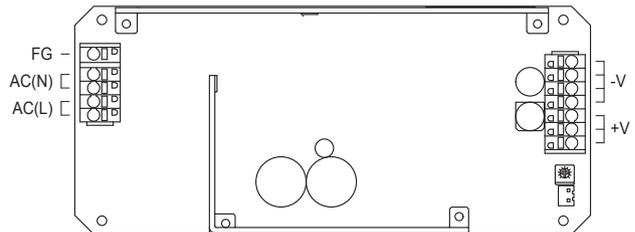

Fig.6.4 Example of option -T4
- Refer to fig.6.4 for terminal arrangement.